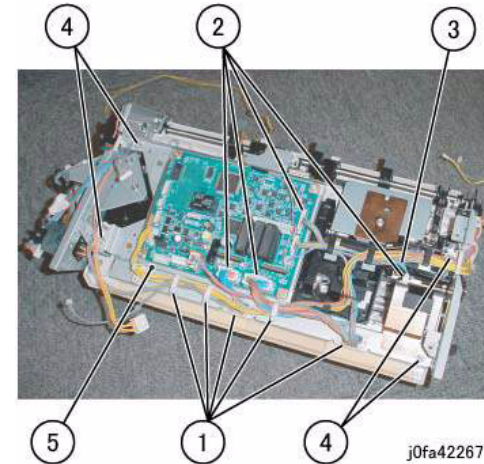

Figure 2 Moving the Bottom Plate (j0fa42267)
5. Remove the Bottom Plate. (Figure 2)